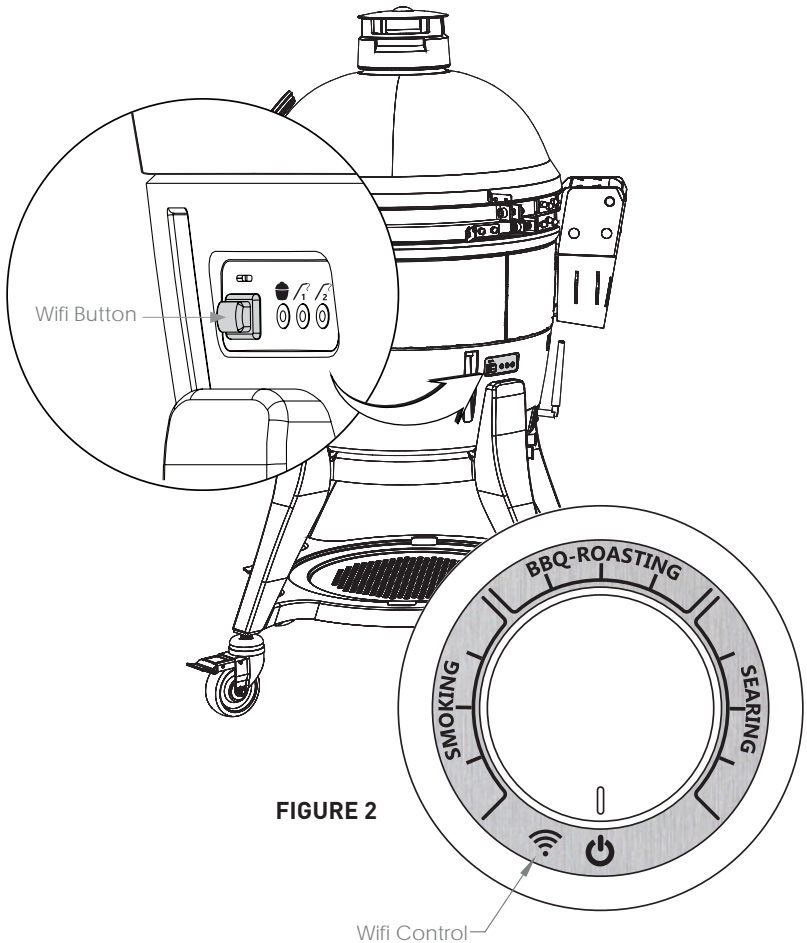

FIGURE 2
1. Rotate the front knob to the wifi setting. [see figure 2] if the knob is not turned to wifi, the app will not be able to control the grill.